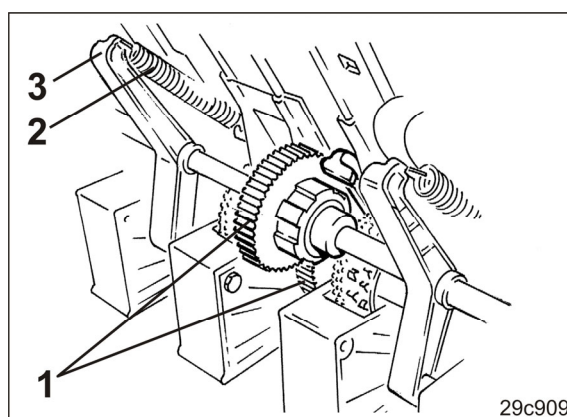

Fig. 223
8. Mesh the cogs (Fig. 223/1) of the lay shaft coupling and the seeding shaft spur gear.
9. Hook in the tension springs (Fig. 223/2) on the pivot bearings (Fig. 223/3).